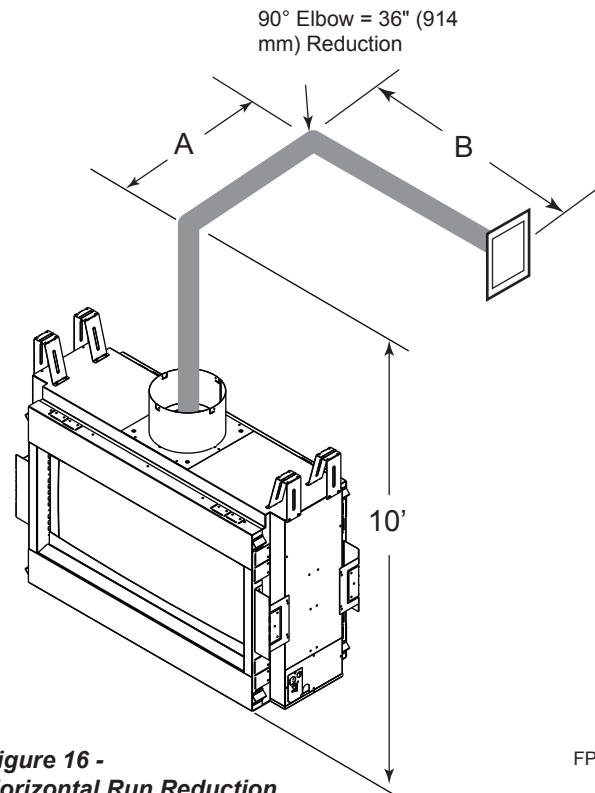

Figure 16 -
- If a 90° elbow is used in the horizontal vent run (level height maintained) the horizontal vent length is reduced by 36". *Figures 16 and 17*. This does not apply if the 90° elbows are used to increase or redirect a vertical rise.
In *Figures 16 and 17* dimension A plus B must not be greater than 17' (5.2 m).